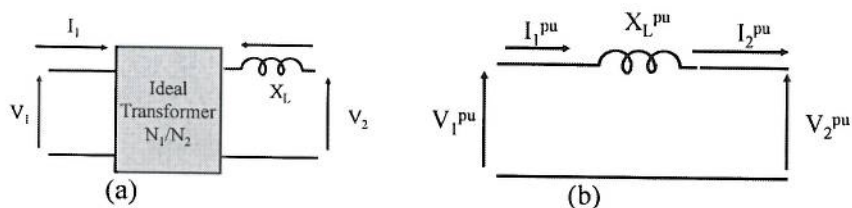

Figure 1.1: (a) SI representation of transformer and (b) corresponding per unit representation of transformer
- b) An SI representation of a transformer shown in Figure 1.1 (a) is composed of an ideal transformer and leakage reactance. Derive an equivalent per-unit representation shown in Figure 1.1(b).
b) An SI representation of a transformer shown in Figure 1.1 (a) is composed of an ideal transformer and leakage reactance. Derive an equivalent per-unit representation shown in Figure 1.1 (b).